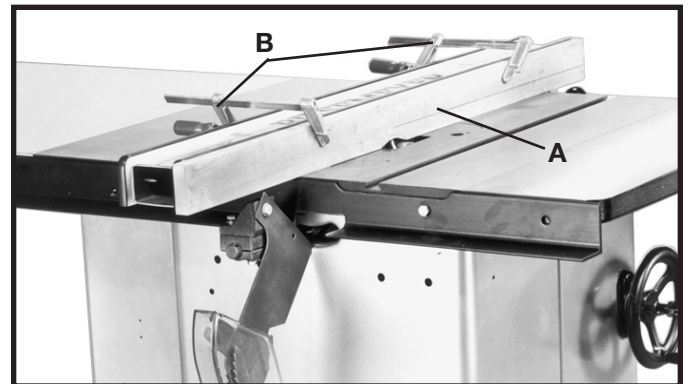

Fig. 62
CAUTION It is necessary when performing special operations such as moulding to add wood facing (A) Fig. 62, to one or both sides of the rip fence, as shown. The wood facing is attached to the fence with two clamps (B). 3/4 inch stock is suitable for most work although an occasional job may require 1 inch facing.